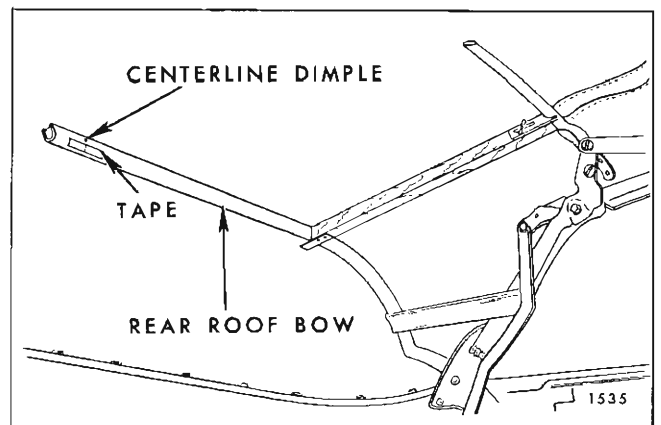

Fig. 5-I-20—Marking Rear Roof Bow
23. Along forward surface of rear roof bow, install a 1" piece of tape at centerline dimple of rear roof bow. Using a pencil, mark centerline of rear bow on tape. (Fig. 5I20).